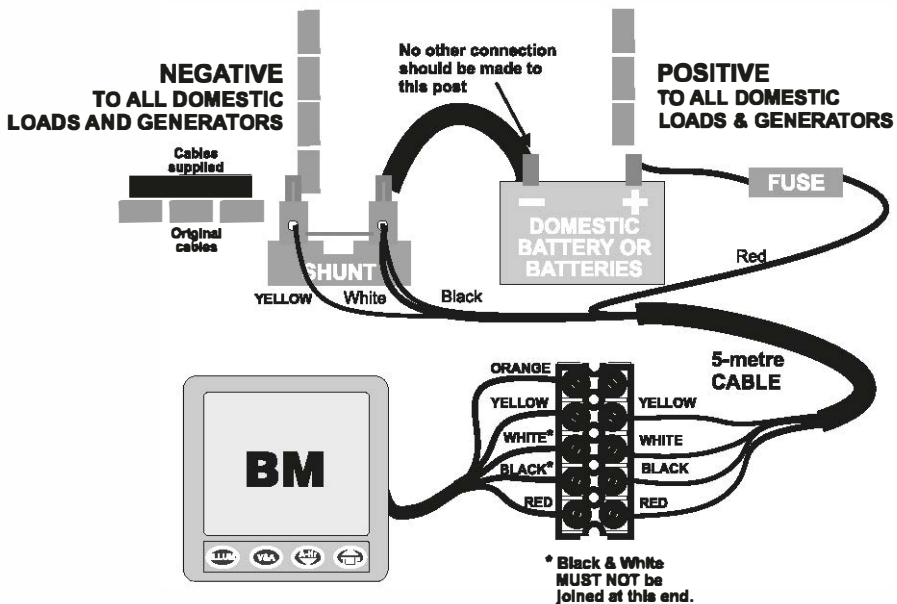

Figure 1 - Domestic battery only
- 5 Connect the shunt cable to the display unit as shown on Figure 1, below, using the terminal block supplied. Be careful to connect the wires exactly as shown, noting that the black and white wires are joined at the shunt connection, and are connected separately at the instrument end of the cable.
- 9 Disconnect the **NEGATIVE** terminal from the battery and connect to the shunt as shown on Figure 1. Ensure it is positioned where it cannot come into electrical contact with other parts, and ensure it will remain dry and free from contaminants. Also note that the shunt can get warm when heavy currents flow, so ensure it is secured in a position where its heat cannot affect other parts. **TAKE CARE TO AVOID OVER-TIGHTENING THE CONNECTION TO THE SHUNT.**
- 10 Connect the Black and White wires and Yellow wire to the shunt as shown on Figure 1.